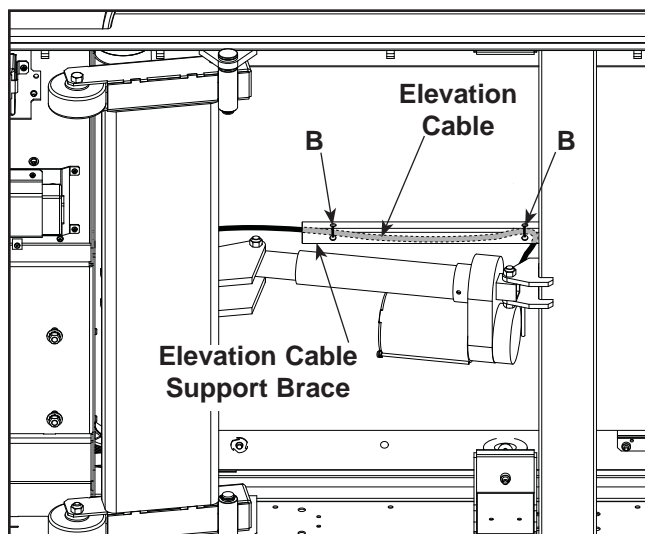

Figure 2
- B. Using the side cutters, cut the two wire ties, securing the elevation cable to the elevation cable support brace. See Figure 2.